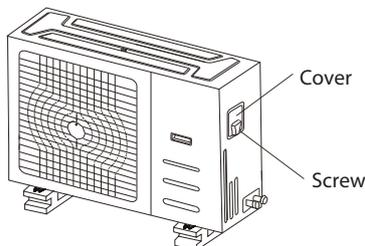

Fig. 8.1
2. Remove the electric cover of the outdoor unit. If there is no cover on the outdoor unit, take off the bolts from the maintenance board and remove the protection board. (See Fig. 8.1).